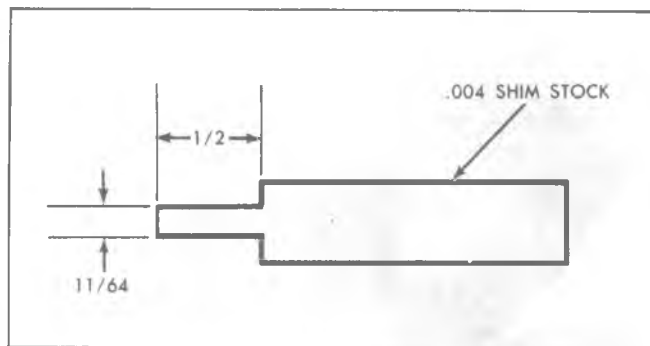

Fig. 6A1-34--Oil Seal Installation Tool
b. Use a pair of pliers (with taped jaws) to hold the bearing thrust surface to the oil slinger and rotate the crankshaft to remove bearing (fig. 6A1-33).